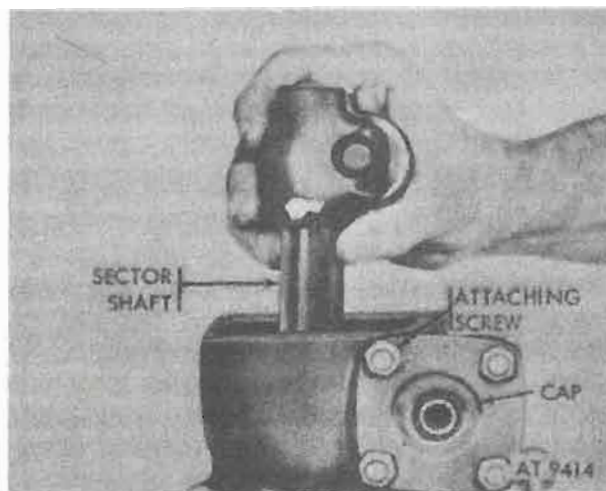

Figure 16-9. Steering gear sector shaft.
h. Lift sector shaft assembly out of gear housing (fig. 16-9).
- i. Remove four cap attaching screws (fig. 16-9).
c. Install necessary shim or shims, gasket, and end cap on gear housing (see bearing preload adjustment, para. 16-16 or 16-17). Tighten cap attaching screws (fig. 16-9), to specified torque (table 16-1, para 16-18). Turn steering shaft back and forth while tightening bolts. If wormshaft is too tight, add shim or shims. If shaft is too loose, remove shim or shims as required.
d. Install sector shaft in steering gear housing (fig. 16-9). Install gasket and cover and tighten attaching bolts to specified torque (table 16-1). Install adjusting screw assembly in trunnion. Be sure there is no drag on sector while installing cover. Lubricate steering gear. (Refer to LO 9-2320-218-12 for lubrication instructions.)